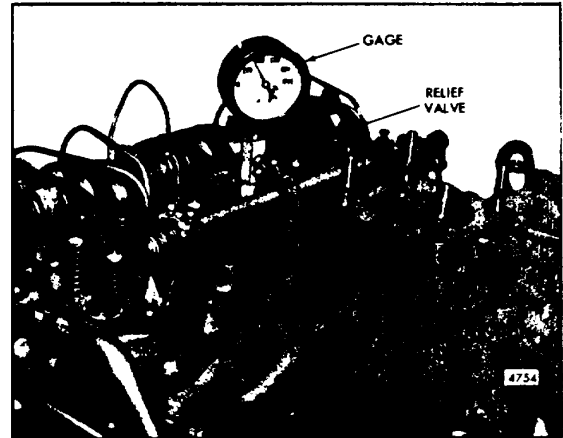

Fig. 1. - Checking Compression Pressure
3. Remove the injector and install the adaptor J 791502 and pressure gage and hose assembly J 6992 (Fig. 1).